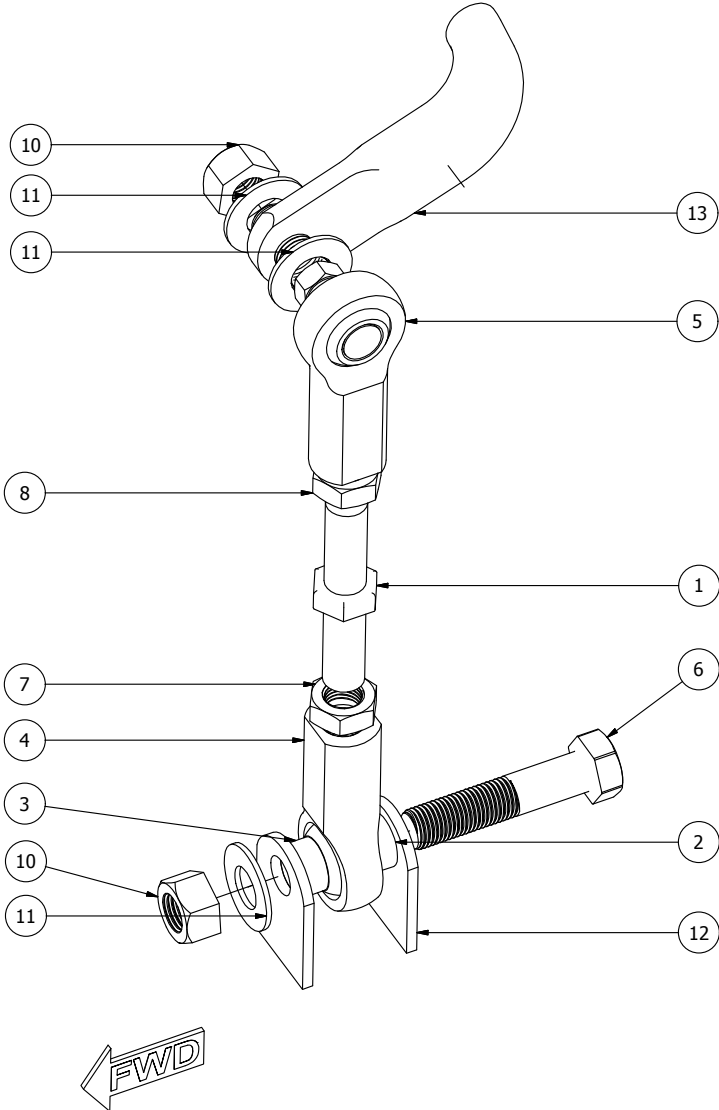

Figure 1 - Rear left sway bar link assembly
3. Assemble and install the sway bar end link as shown in Figure 1. Connect the link to the sway bar first, then adjust the length of the link by turning the center of the jack screw with a wrench until the lower rod end is aligned with the mounting holes in the bracket. This ensures there is no preload on the sway bar.